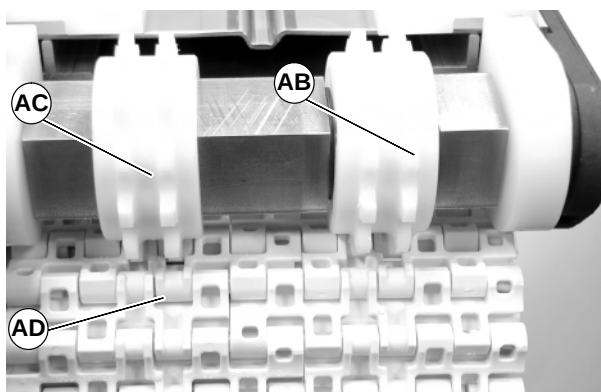

Figure 12
2. For 17.25" wide and 23.25" wide belts, align the belt to the retained center sprocket (AB of Figure 12) on the drive end of the conveyor.
4. Aligning free moving sprocket(s) (AC of figure 12) to the drive pocket(s) (AD). Wrap belt around sprockets and pull towards idler end.